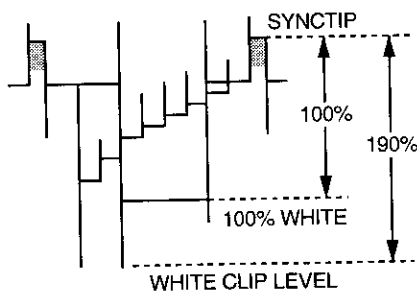

Figure 5-5.
1. Connect an oscilloscope to pin (48) of IC401 and GND.
3. Make sure that the overshoot of the video signal is clipped at 190% as shown in Figure 5-5.